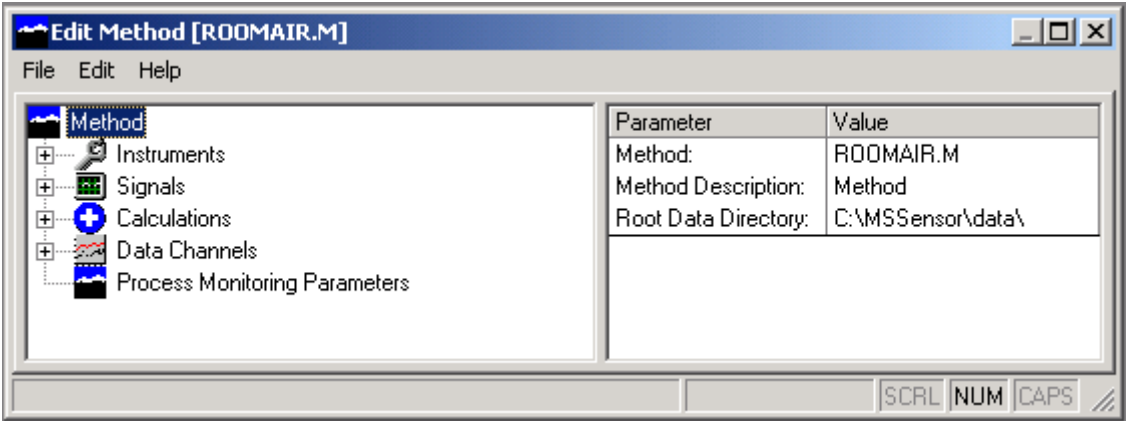

Figure 6 Editing a method
- 4 Select **OK** to create the new method directory and close the dialog box. The **Edit Method** window opens (Figure 6).